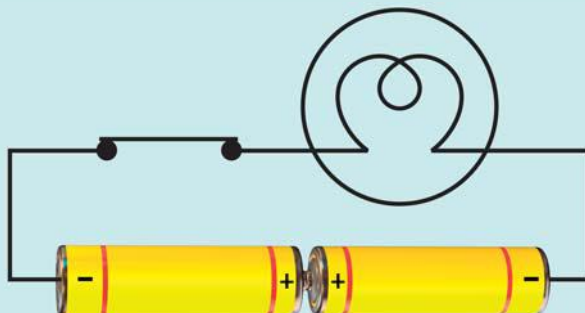

Fig. 14.23
4. The bulb in the circuit shown in Fig.14.23 does not glow. Can you identify the problem? Make necessary changes in the circuit to make the bulb glow.